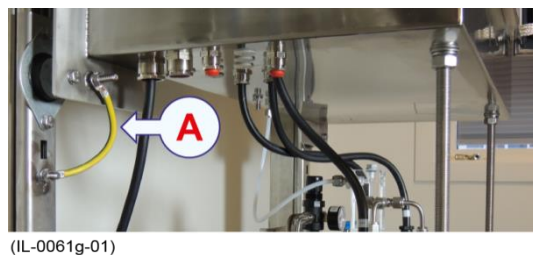

Figure 33 Analyser cabinet, earth bonding
- 16) As the cabinet is isolated from the supporting structure by rubber mounts, bond the cabinet's support frame to the ship's structure using an earthing cable. Figure 33 shows the preinstalled earthing cable between the cabinet and the frame.